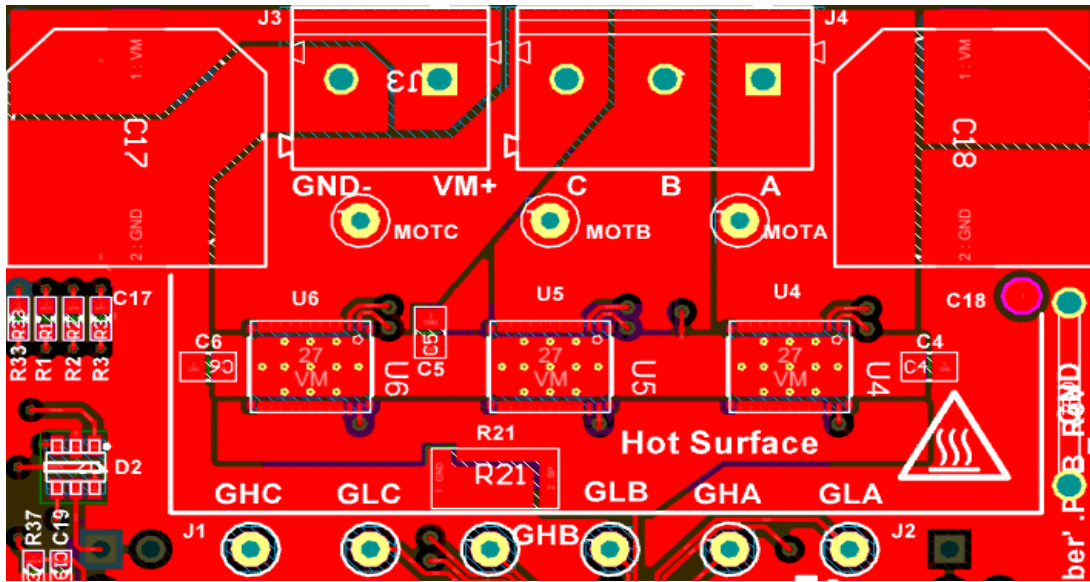

图 7-2. Top Layer
- Use the smallest drill size allowed by the design. The example in Figure 7-2 uses vias with a 10-mil drill hole and a 16-mil solder pad.